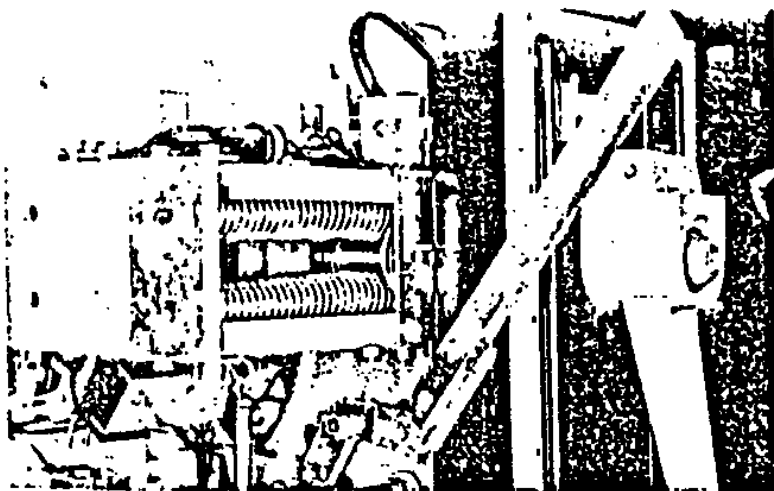

Figure 5
5. Insert maintenance closing handle #1151-9252 as in Figure 5 and slowly operate until arcing contacts touch. All arcing contacts should make simultaneously with a permissible variation of $\frac{1}{16}$ max. Moveable arcing contact fingers should align with stationary arcing contacts. If misalignment or misadjustments are observed, refer to Part 4 — MAINTENANCE FOR ADJUSTING INSTRUCTIONS. Moveable arcing contacts are designed with side clearances for better guidance inside the arc chutes. A side to side movement of $\frac{1}{8}$ is allowable. Close breaker and check overtravel on main contacts.